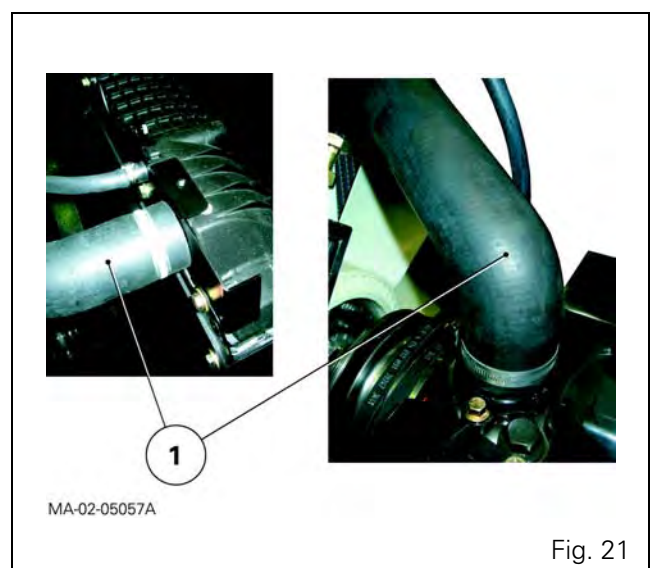

Fig. 21
45. Disconnect the upper radiator hose (1) (Fig. 21).